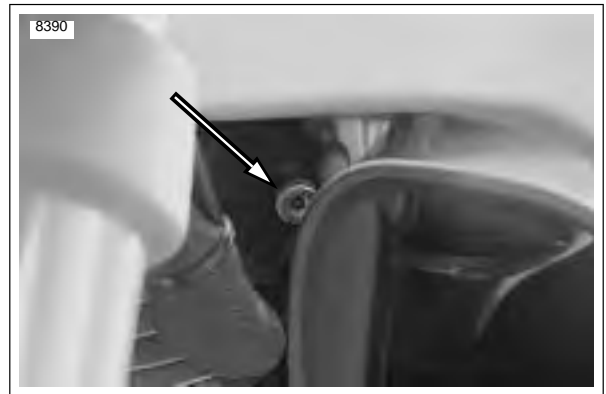

Figure 1-61. Idle Adjuster (behind left fork)
5. See Figure 1-61. Back off idle adjustment until TP volts stop decreasing and then continue to back out one full turn.